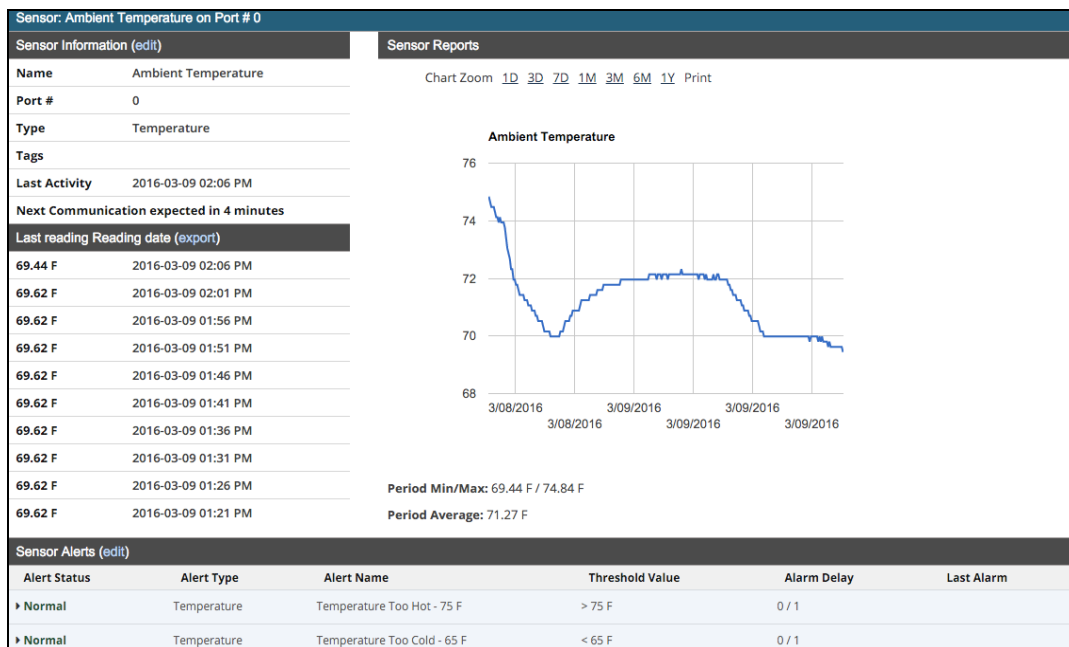

Figure 5: Device View Screen Showing Examples of Sensor Information and Sensor Alerts
1. From the Device List Screen, select **View** next to any device to view and edit information for that device. The Device View Screen displays Device Information and Device Alerts (see Figure 4), and sensor information and sensor alerts that are associated with the device (see Figure 5).
Sensor Alerts: The Sensor Alerts Screen displays the status of all alerts created for that sensor. Sensor alerts display alarms if a sensor reading crosses a specified Threshold Value. The Sensor Alerts Screen displays the Alert Status, Alert Type, Alert Name, Threshold Value triggering the alert, Alarm Delay, and Last Alarm (see example in Figure 5).
From the Device View Screen (see Figure 5), select **edit** located above the Sensor Alerts window (see section 1.3.3).